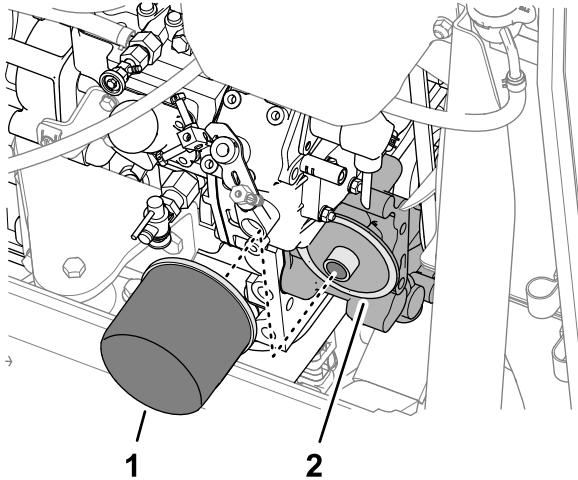

Figure 81
1. At the left side of the engine, rotate the oil filter counterclockwise to remove it (Figure 81).